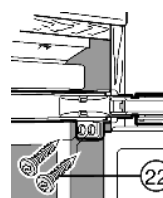

Fig. 22
- ▶ Screw long chipboard screws *Fig. 22* (22) at the top and at the bottom through the hinge plates. Take care that screws will not protrude from an exposed end cabinet wall.